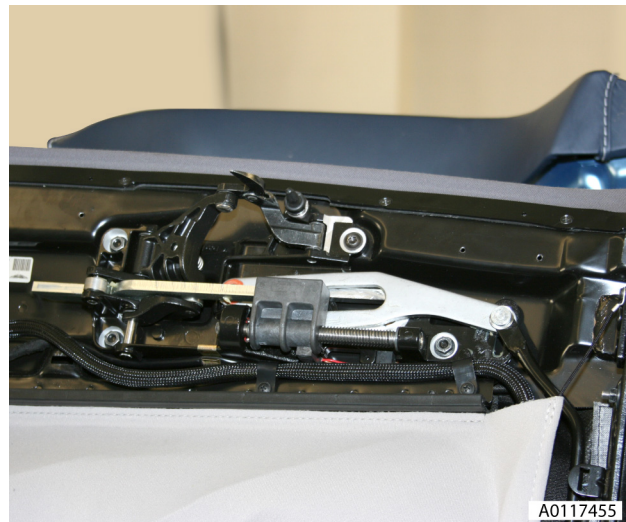

Fig. 3
5. Remove 3 P-clip screws securing harness to roof header, release clips from harness (see Fig. 3).